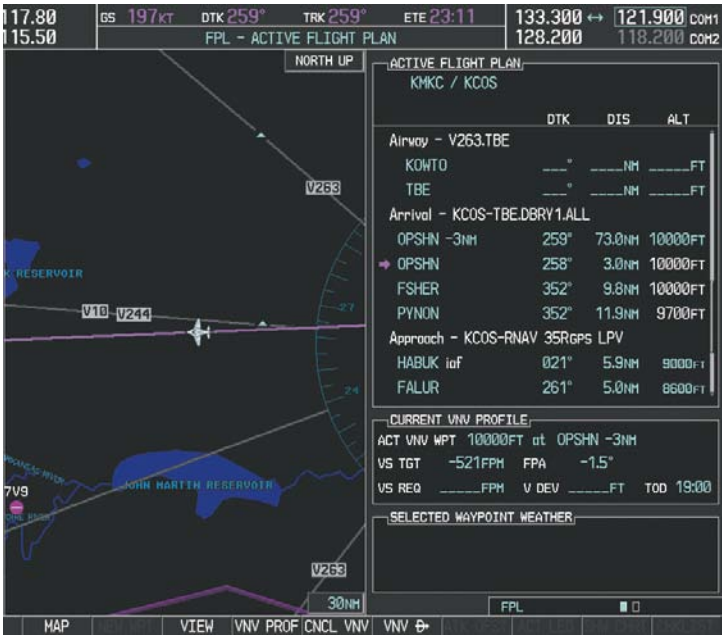

Figure 5-128 Loaded Approach
- i) With 'LOAD?' highlighted, again press the **ENT** Key. The selected approach is added to the flight plan as seen in Figure 5-128.